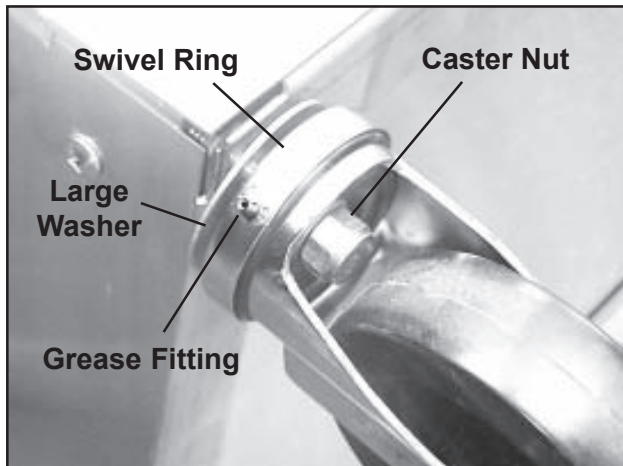

Figure 19. Caster (partially unscrewed)
2. With a 3/4 in. open-end wrench, unscrew the caster nut two or three full turns (Figure 19).